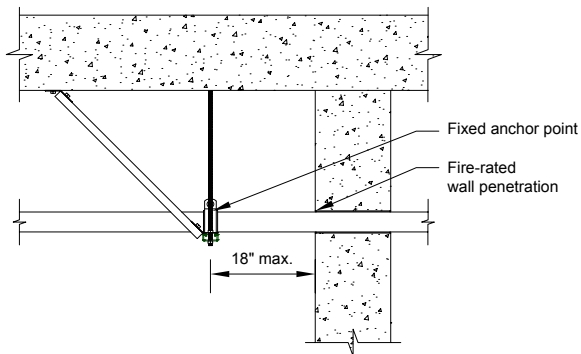

Figure 30: Fixed anchor point near fire-rated wall
- Installed within 18" of a fire-rated wall penetration (see **Figure 30**)